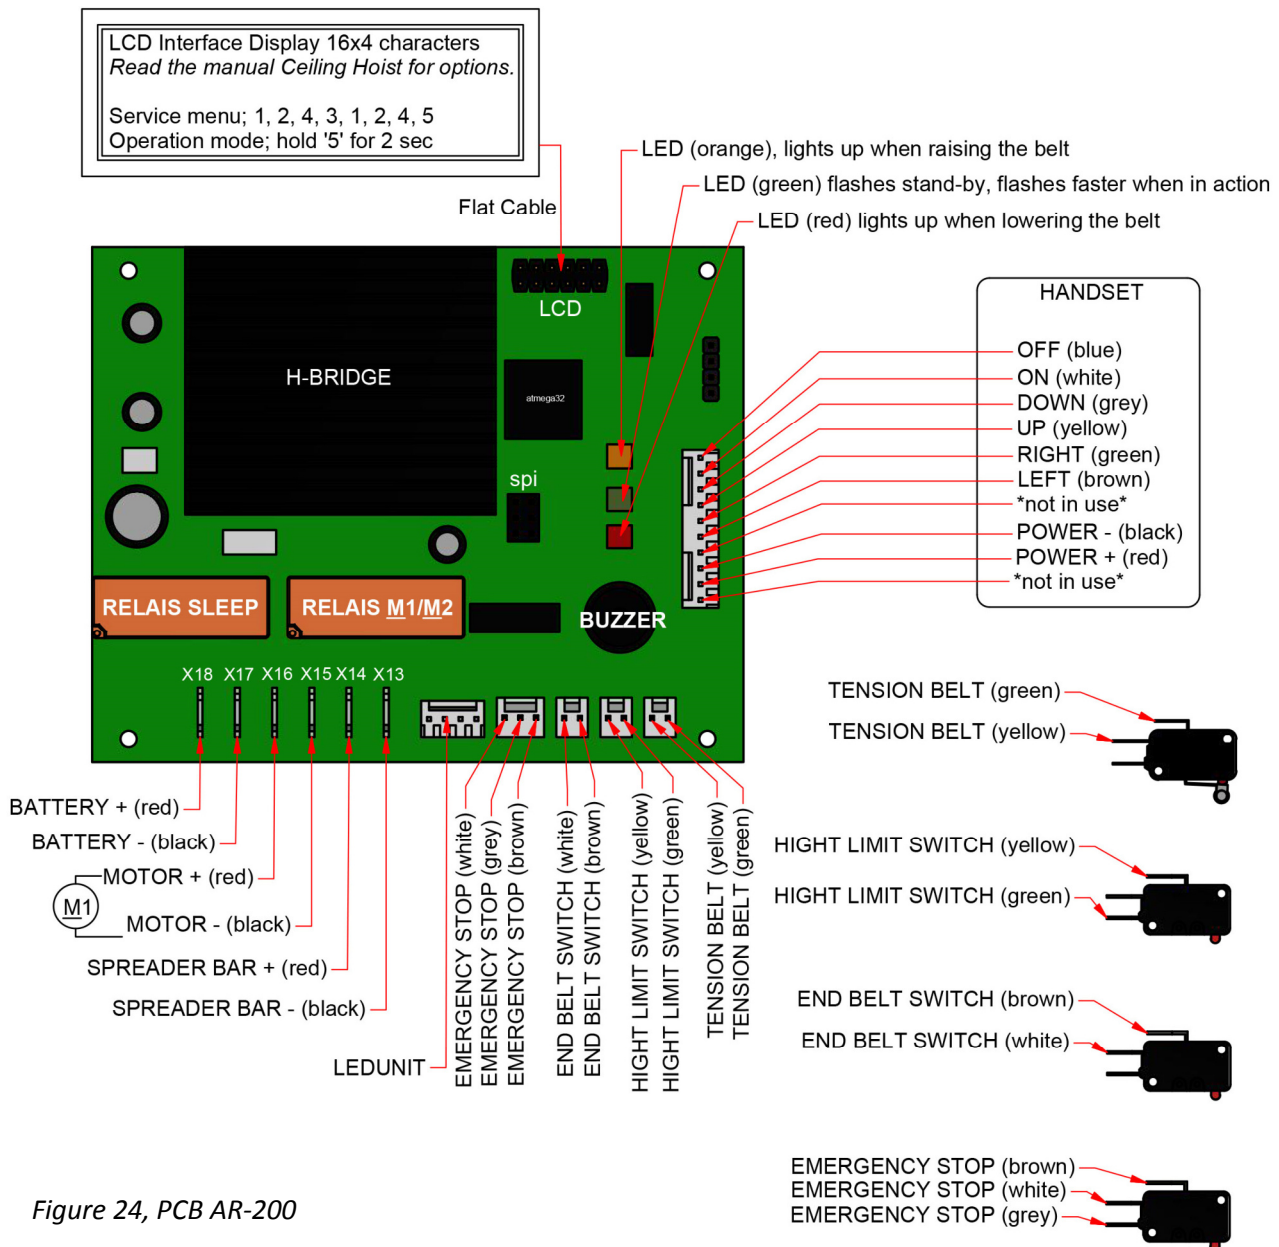
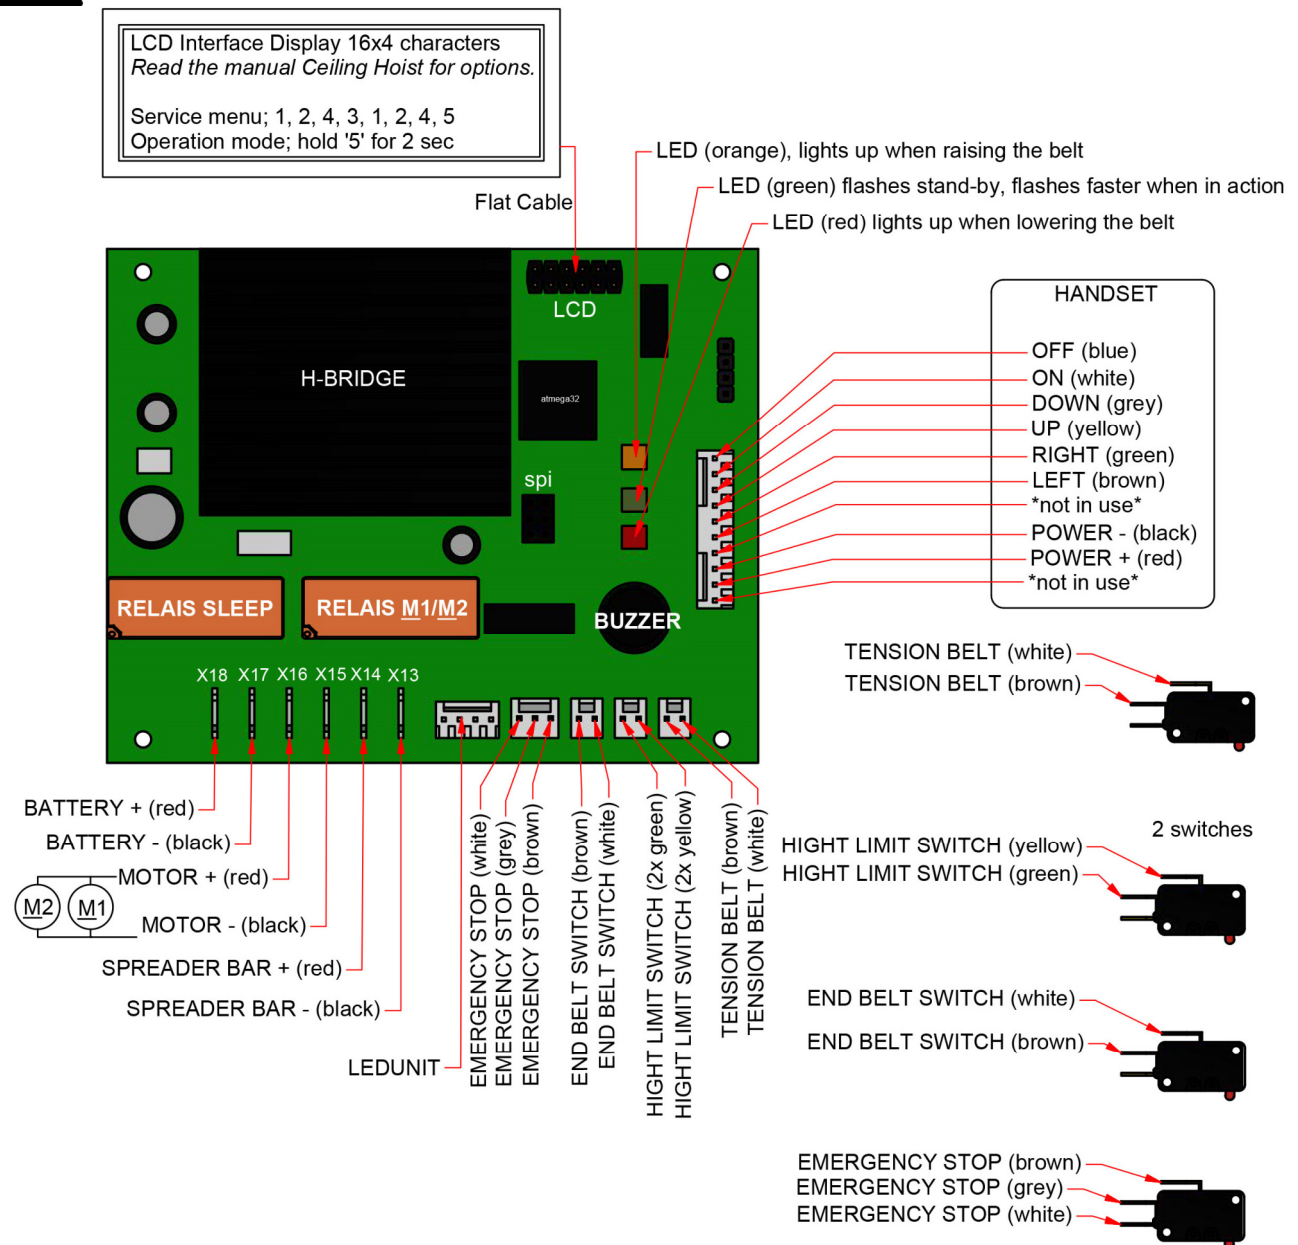
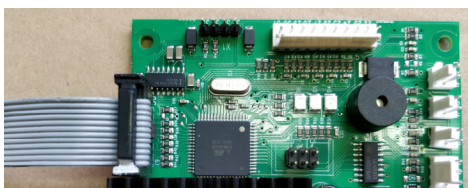

Figure 24, PCB AR-200
Figure 25, diagram PCB AR-260 and AR-350
Figure 28, programming box connection
6. Connect the 2 contacts to the Circuit Board *Figure 24 and Figure 25*).
3. Connect the Programming Box to the Circuit Board (*Figure 24 and Figure 28*).